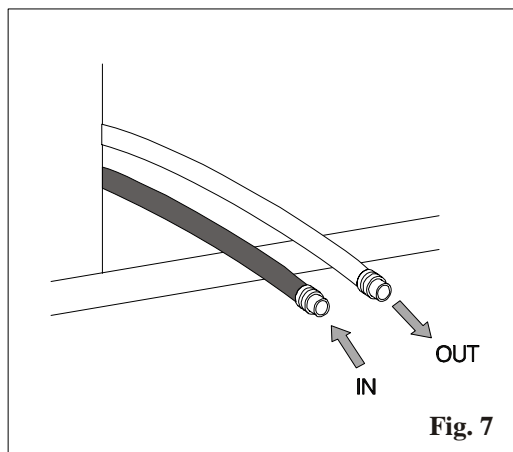

Fig. 7
**WARNING! Please ensure that the taps are open that the water flows regularly (Fig. 7) before turning on the cabinet.**